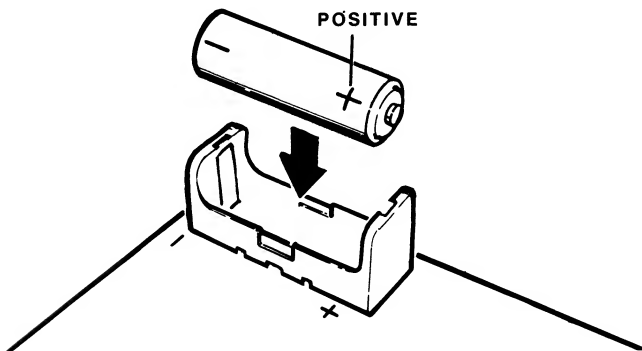

Figure 6-2. Installing the Battery
5. Place the new battery in the battery holder as shown in Figure 6-2. Be sure the positive (+) end of the battery is oriented as shown.